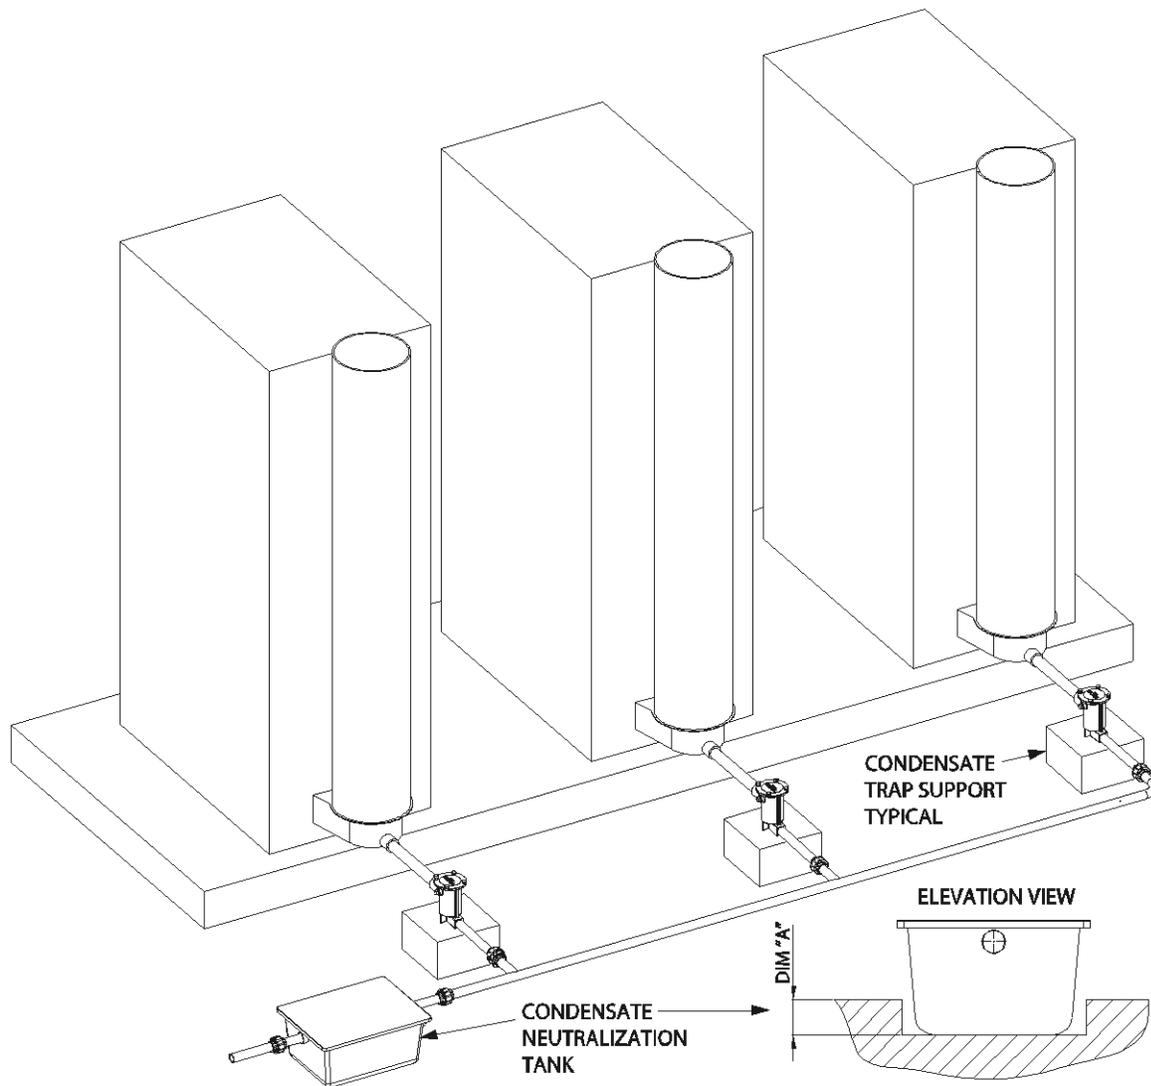

Figure 2: Multiple Boiler Units with Tank (P/N 89030) Placed in a Pit
- a) Installing the Neutralization Tank in a pit (see Figure 2).
Use Figure 2 and the above table for installations where a boiler pad no thicker than 4" is desired. For models not shown in this table: the condensate neutralizer can be installed on the floor while the boiler is installed on a 4 inch pad.